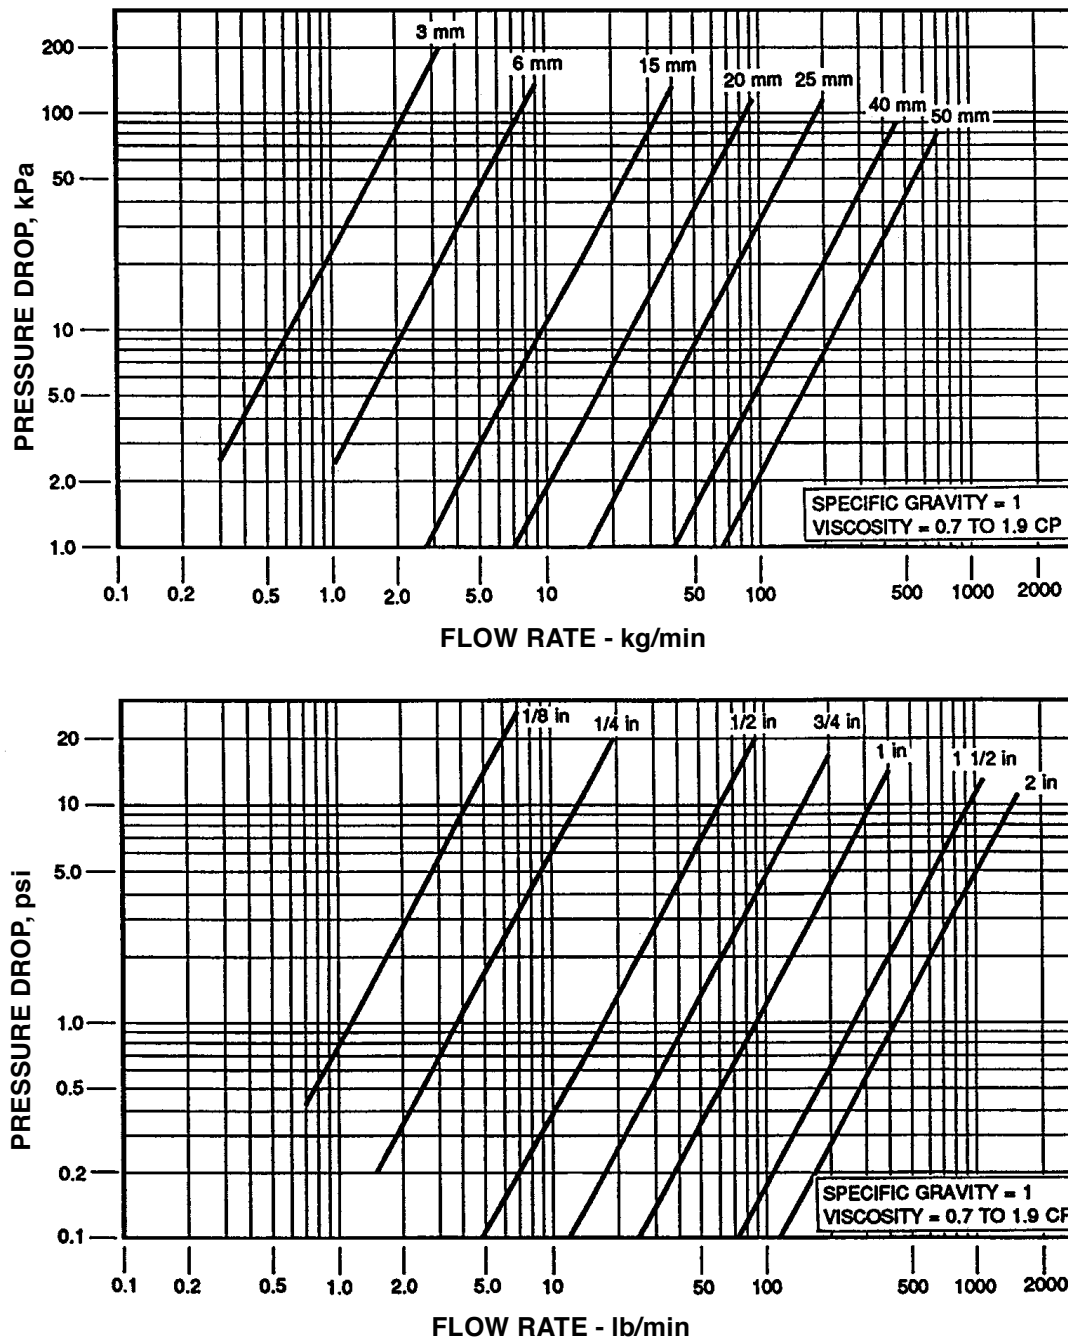
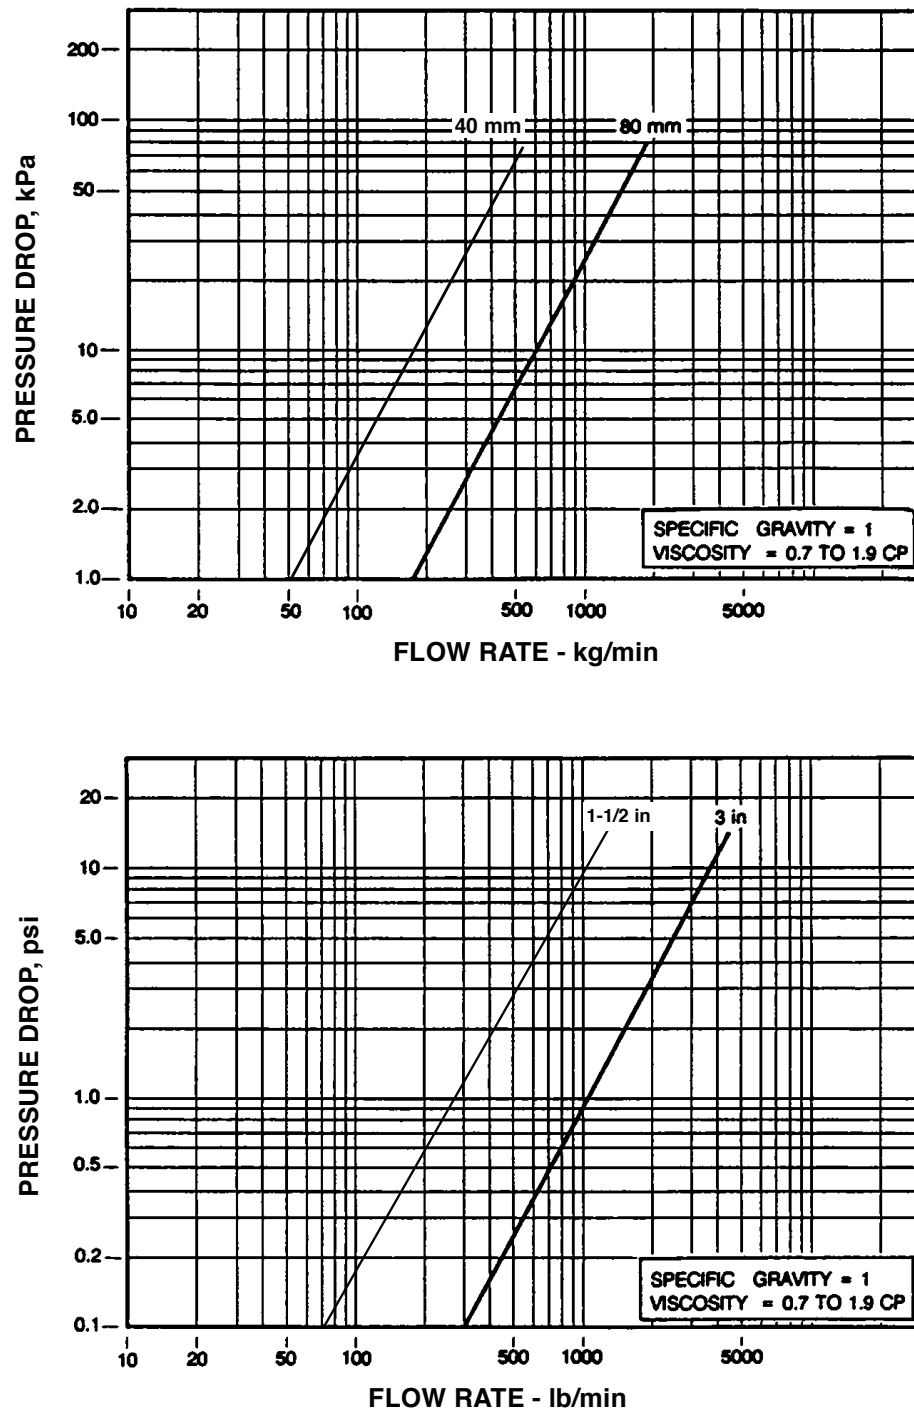

Figure 18. Determination of Pressure Loss - CFS10
Figure 19. Determination of Pressure Loss - CFS20
2. Apply the pressure drop found in Figure 18 or Figure 19 and the process fluid specific gravity ( $G_F$ ) to the appropriate equation below to find the pressure loss ( $\Delta P$ ) across the flowtube.
5. Refer to Figure 18 or Figure 19 and find the pressure drop ( $\Delta P_{\text{CURVE}}$ ) corresponding to user's mass flow rate operating point.